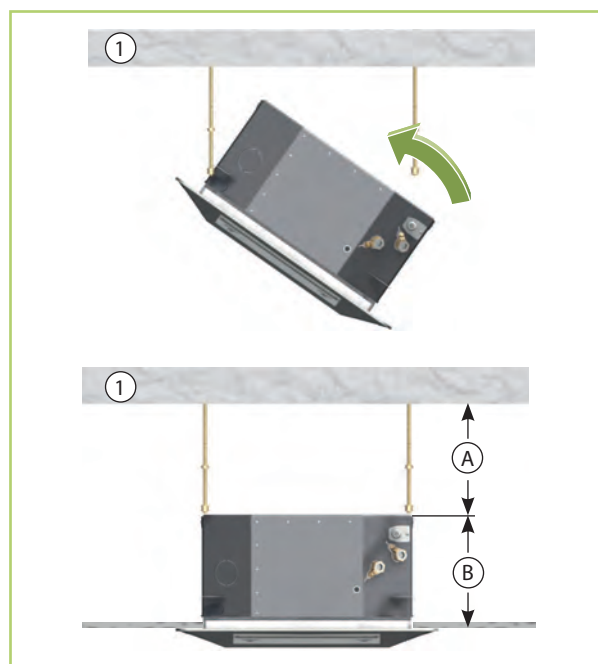

Fig. 27: Hooking in the unit (MXD 202-522)
2. Fit the indoor unit onto the threaded rods and use the lower nuts to level the unit (Fig. 27).